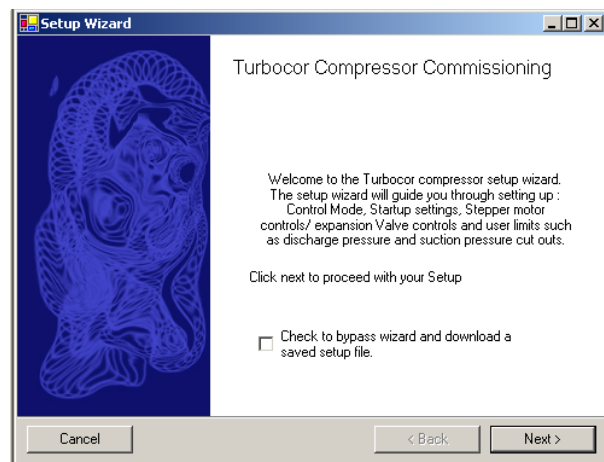

Figure 5 Commissioning Set-up Wizard
1. To launch the commissioning setup wizard, select "System Commissioning" from the "Advanced" menu item. The introduction screen for the commissioning setup wizard appears; refer to Figure 5. Click Next.